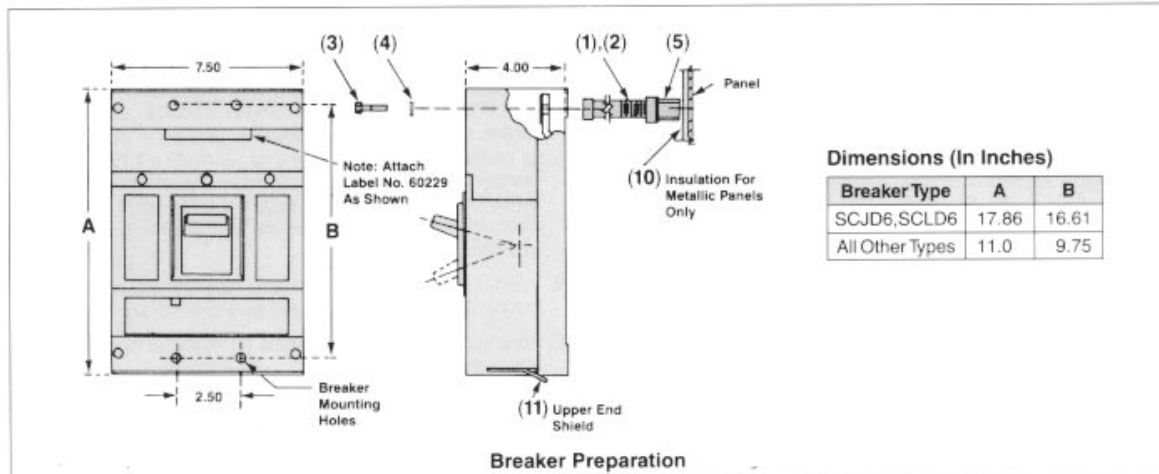

Figure 2
Breaker Preparation (Figure 2)
- A. Insert the upper end shields (11) into the slots provided at the line and load ends of the breaker (Figure 2), one for each stud position.
- B. Affix the label Pc. No. 60229 to breaker cover (Figure 2).